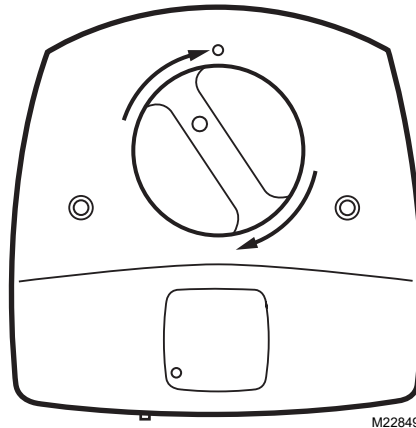

Fig. 6. Snap lamp handle into place.
13. Rotate the lamp handle clockwise until it snaps into place with the lamp light indicator aligned with the raised button on the unit cover. See Fig. 6.
8. Rotate the lamp clockwise until it snaps into place with the lamp light indicator aligned with the raised button on the unit cover. See Fig. 6.